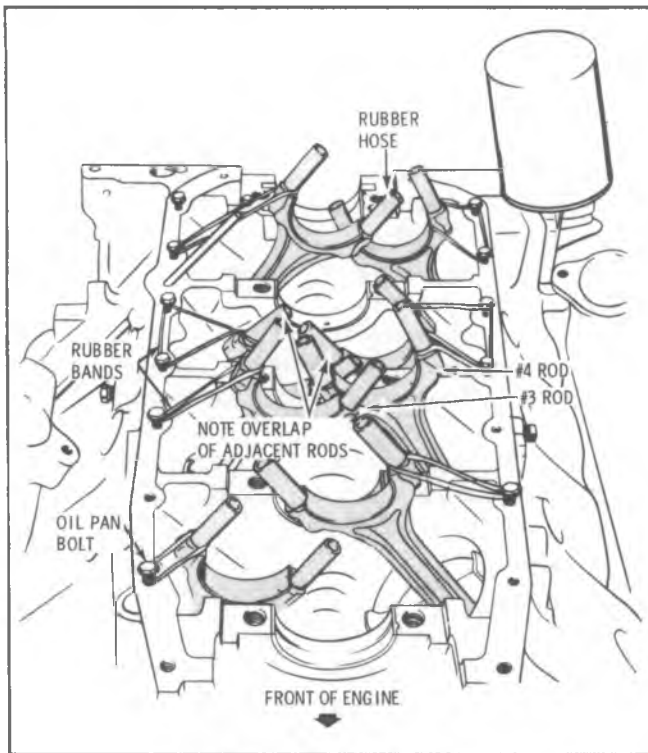

Fig. E-89—Crankshaft Removal
1. With engine on stand and oil pan, oil pump and front cover removed, rotate crankshaft to the position where the connecting rod nuts are most accessible. Fig. E-89 shows the engine with the No. 3 and No. 4 rods in the fully extended position.
1. Install enough oil pan bolts in pan rails to align rods with rubber bands. (Fig. E-89)